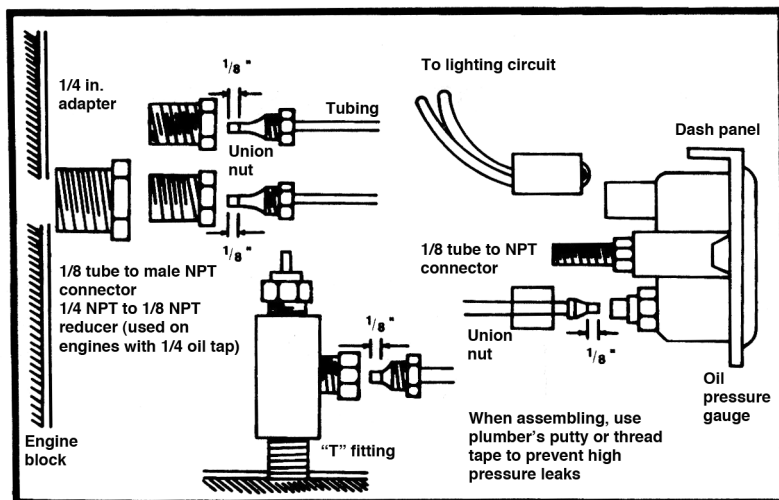

Figure 1
2. Connect one end of the plastic tubing (#14) to the engine block (where the oil light sender was removed) using the 1/8 in. fitting (#10). Where required, use 1/4 in. oil pressure adapter (#11) on cars with a larger tap, as shown in Fig. 1.